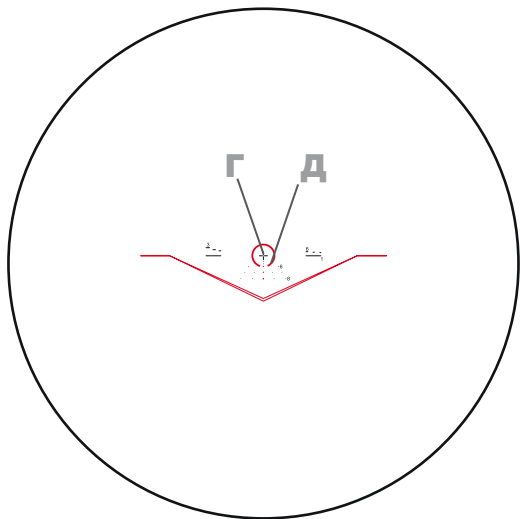

Figure 7
1.4.9.3 The field of view with ballistic reticle (BDC) for magnifications of 1.5× and 6× is given in Figures 7 and 6, respectively.